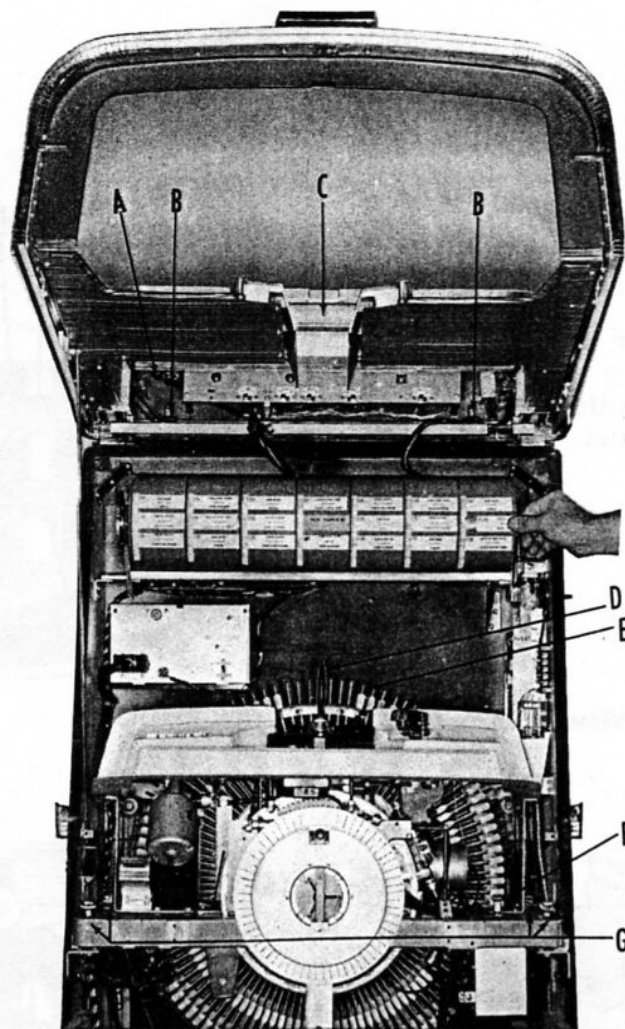

FIG. 4—Inside View of Cabinet
2. Cabinet lighting is accomplished with two 20 watt fluorescent tubes located in the dome at (A-Fig. 4) and (C-Fig. 4). The fluorescent light starters are on the dome rail panel at (B-Fig. 4).
Four anchor bolts (G-Fig. 4) must be unscrewed **as far** as possible before operating phonograph. These bolts must be tightened securely whenever the phonograph is transported.
The "service scan switch" (F-Fig. 4) located on the right front chassis above control box, may be operated at any time to stop mechanism at any point of operation. For service purposes, make certain that switch is in "Operate" position after servicing mechanism.
Moving service scan switch (F - Fig. 4) to the left to "scan" position, causes the record magazine (E-Fig. 4) to rotate. Releasing the service scan switch will stop the record magazine in any position to install or remove records.
2. Move service scan switch (F-Fig. 4) to "scan" position and hold there until record magazine rotates.
3. If record magazine does not rotate due to phonograph being in "Music play" position, place tone-arm in record cut-off groove and allow grip arm (D-Fig. 4) to return record to record magazine. The record magazine will then rotate.
4. After record magazine begins to rotate, move service scan switch (F-Fig. 4) to "OFF" position.